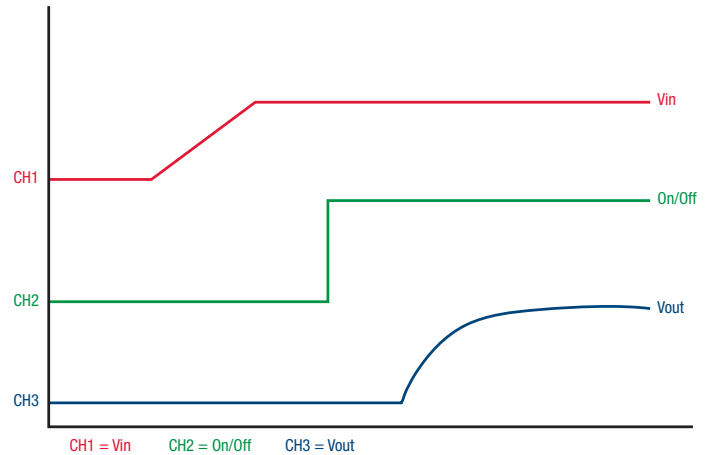

Figure 3. Typical Turn On for Positive Logic Modules
- When  $V_{in}$  has reached steady state, apply control signal to the all modules. Figure 3 illustrates the turn on process for positive logic modules.